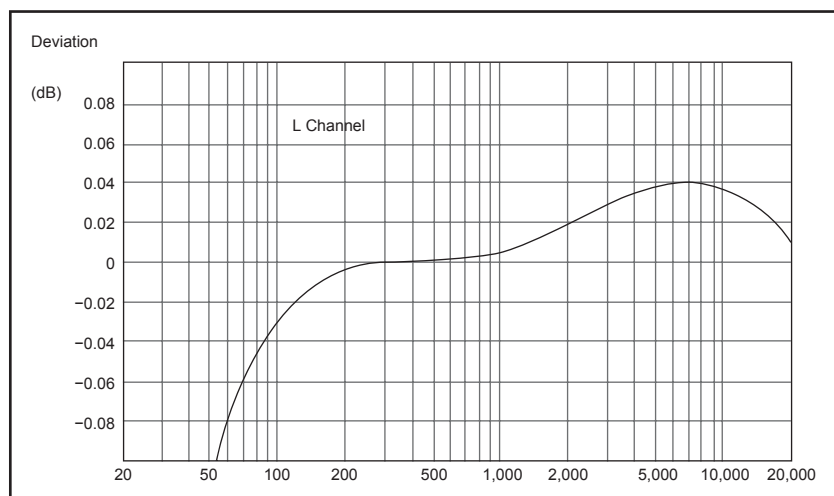

Figure 4: The preamplifier's RIAA accuracy is less than  $\pm 0.04$  dB from 80 Hz to 20 kHz.
**Figure 4** shows the preamplifier's accuracy with this inverse RIAA network connected at its input. The deviation from the ideal RIAA curve is less than  $\pm 0.04$  dB from 80 Hz to 20 kHz. Of course, this includes the error of the inverse RIAA network and the MC100 preamplifier.
The TA2020 module's THD measures 0.13% at 2.5 W RMS into 8  $\Omega$ . **Figure 4** shows the TrueRTA spectrum. At 5 W RMS into an 8- $\Omega$  output the THD increases to 0.19% with the second and third
The Lepai module measures 0.16% at 2.5 W RMS into 8  $\Omega$  and 0.17% at 5 W RMS. The output spectra are very similar to **Figure 4**. These numbers exceed the published THD specifications for power into 8  $\Omega$  but not by a significant amount.